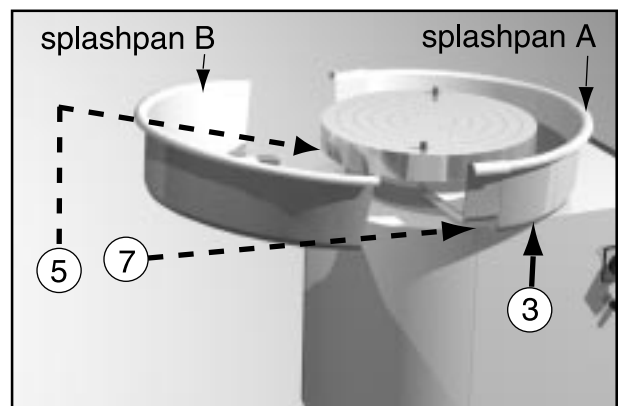

Figure 4
3. Place splashpan A behind wheelhead (see figure 4).